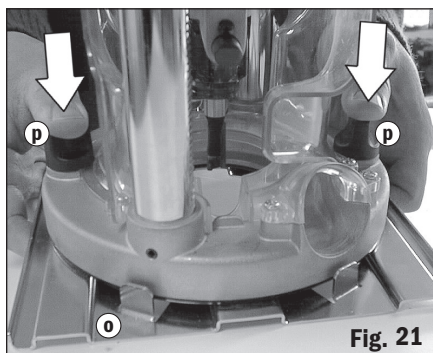

Fig. 21
3. Push down on the mounting knobs until the bolt heads locate into the keyholes, then slide the router until it sits against the locating tabs. **Fig. 21.** Tighten the knobs firmly.